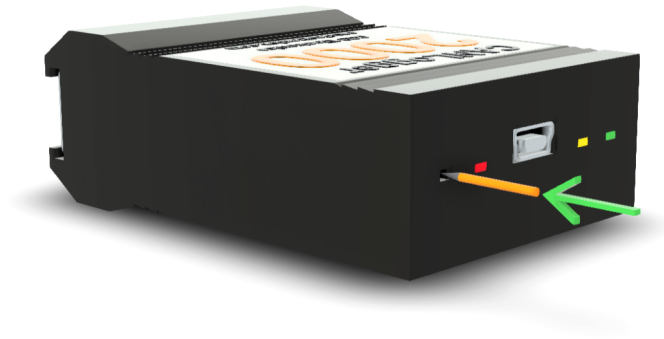

Figure 9: The DFU button is activated with a pointed non-conducting object.
The device will only be able to accept new firmware images when in DFU mode, therefore, to enter DFU mode, the device should be powered on with the DFU button pressed (the device enclosure exposes three LEDs and one DFU button slot), as illustrated in Figure 9. The sequence for entering DFU mode and updating firmware is:
2. Gently push and hold the DFU button, as illustrated in Figure 9